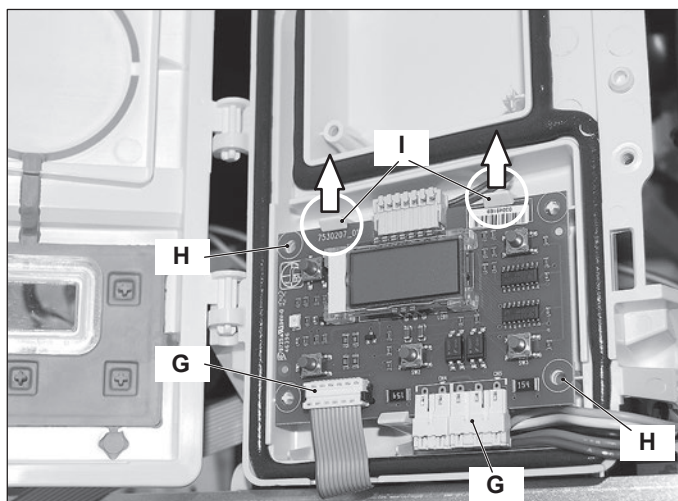

Figure 10.3
- 3 Remove all the wiring "G" connected to the *Control panel electronic p.c.b.* (Figure 10.3).
- 5 Delicately flex the hooks "I" in the directions indicated (Figure 10.3) in order to release the circuit from the box.